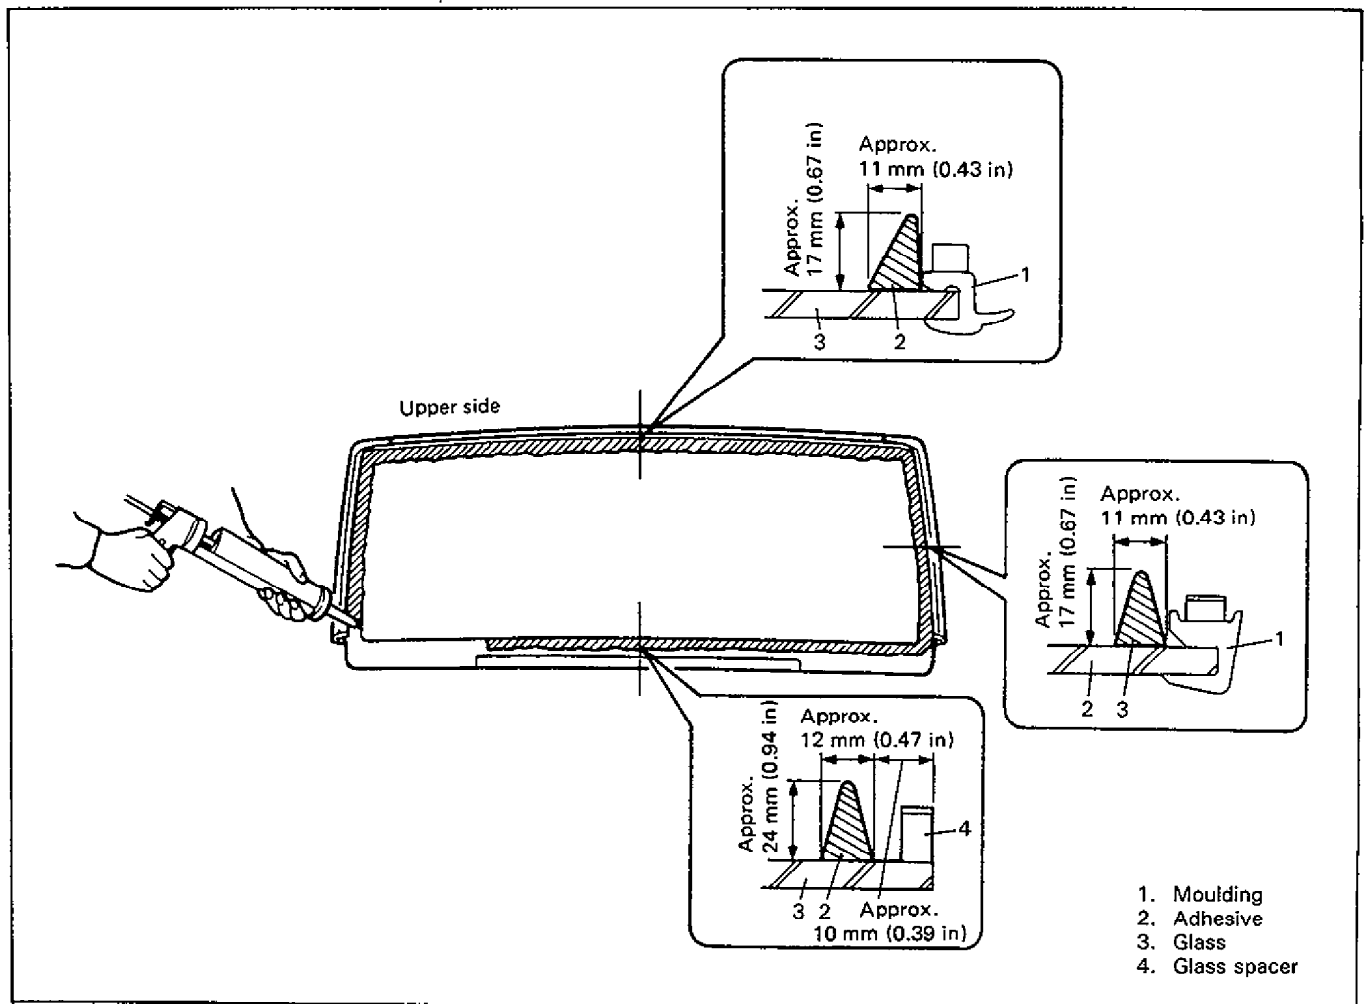

Fig. 9-36 Application of Adhesive
- 11) Apply adhesive referring to Fig. 9-36.